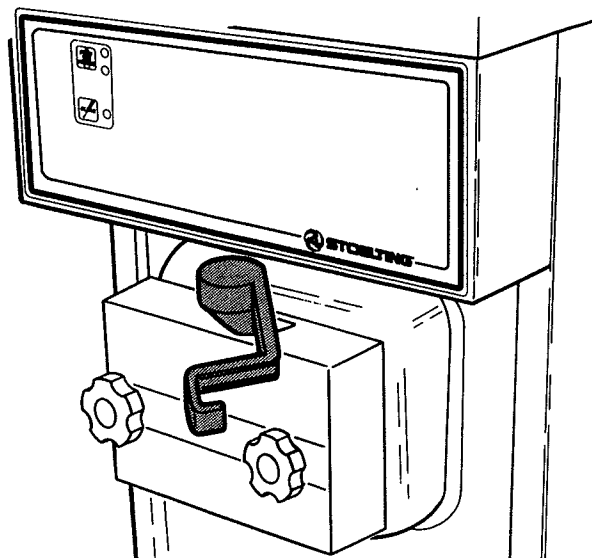

Figure 16. On-Off Switch
- H. For normal dispensing, move the spigot handle open 60° (Fig. 16).